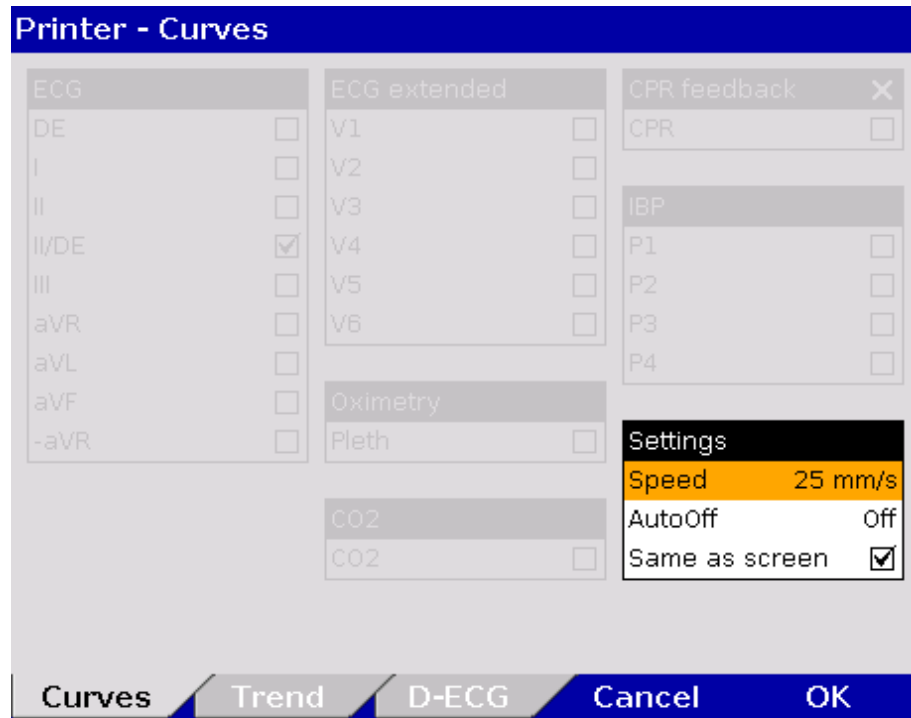

Fig. 7-7 Printer setting "Same as screen"
2. If in the group "Settings" the checkbox "Same as screen" is ticked, the curves currently displayed on the screen are printed. The remaining areas of the configuration dialogue are greyed out (see Fig. 7-7).